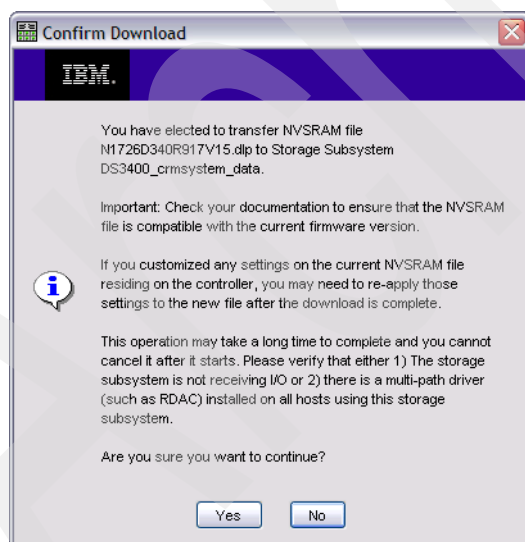

Figure 14-24 Confirm NVSRAM Download
2. Click **Transfer** to submit the new NVSRAM file to the storage subsystem. The Confirm Download window appears (Figure 14-24). Read the information and click **Yes** to continue.